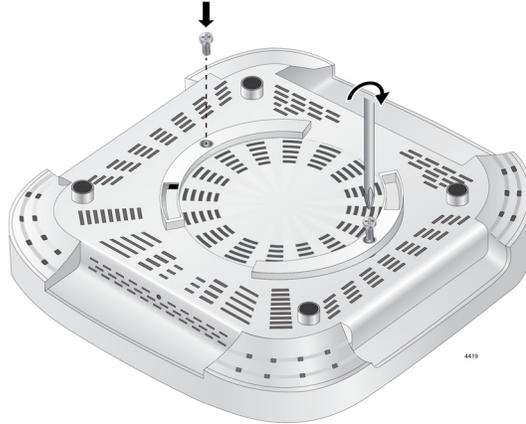

Figure 5. Attaching the Screws to the Access Point Chassis
1. Install the two screws (provided) in the bottom side of the access point chassis as shown in Figure 5.